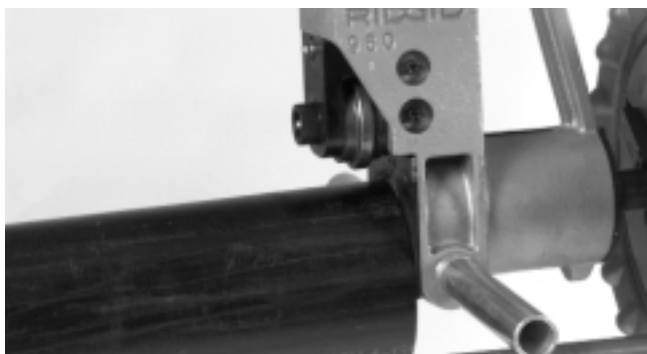

Figure 4 – Close-Up Of Pipe Against Cover Plate.
3. Square pipe and pipe support to roll groover making sure pipe is flush against the Roll Groover cover plate (Figure 4).